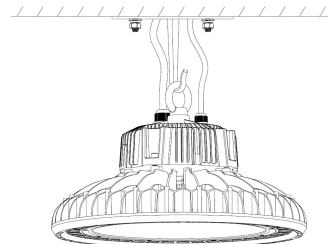

Figure 2
2. Hang the fixture into the lifting hook and protect it from falling. (Figure 2)